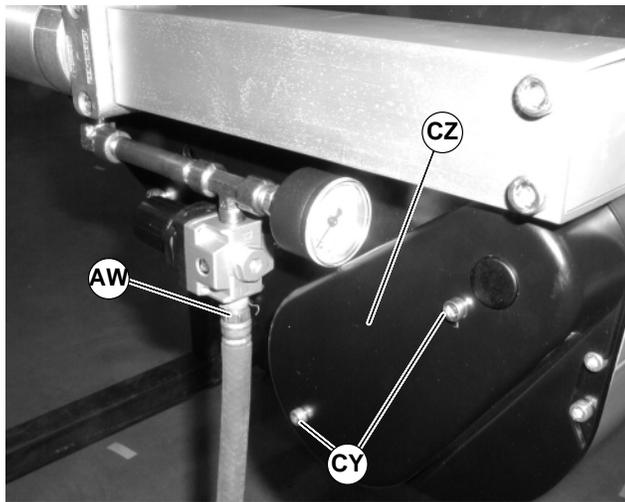

Figure 108
1. Remove air supply (AW of Figure 108) from center drive module.
2. Remove screws (CY of Figure 108) and cover (CZ).
8. Reinstall cover (CZ of Figure 108). Tighten screws (CY) to 69 in-lbs (8 N-m).